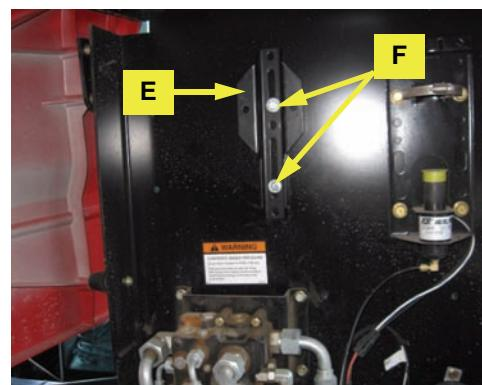

Figure 2b: Steering block mounting bracket
- Using the provided hardware **F**, install the mounting bracket **E** (Figure 2b).
If there are no holes in the firewall, use bracket E as a template and drill two 3/8" mounting holes in the location shown in Figure 2b.